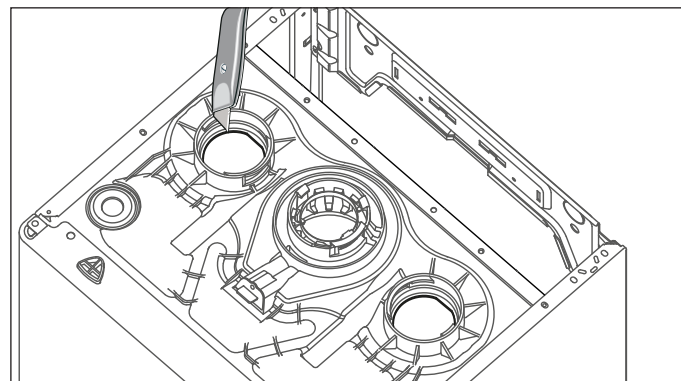

Figure 31 - Cut Out Plastic Covering the Air Intake Connection
Follow the steps below to install air intake pipe into the boiler air intake connection. See Figure 31 for additional details.
Select an air intake connection (left or right of the exhaust vent collar). See Figure 31.
1. Using a utility knife, cut out the plastic covering the air intake connection from the side chosen. **NOTE: DO NOT CUT OUT BOTH SIDES!** See Figure 31.